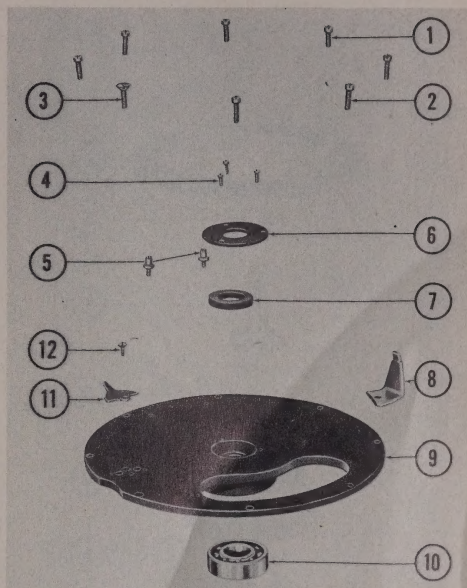

Figure 249 — Top Cover Assembly, Exploded View
(7) DISASSEMBLE HOUSING TOP COVER ASSEMBLY. (See figure 249.)